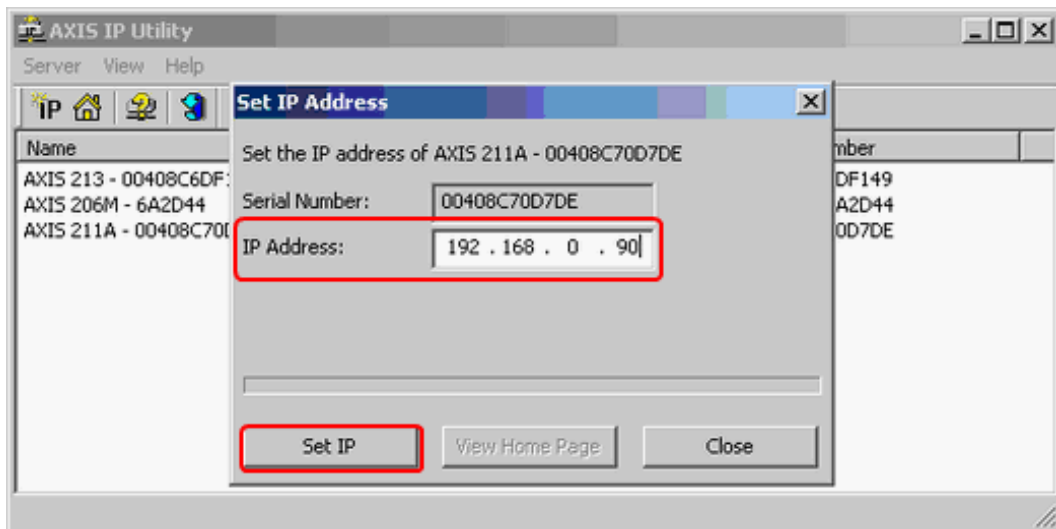

Figure 6.1-8 Entering the required IP-address in the Set IP Address dialog box
2.5. Enter the required IP-address in the **Set IP Address** panel (Figure 6.1-8).
2.6. Confirm the IP-address assigned to the Axis network camera by clicking **Set IP** (Figure 6.1-8).